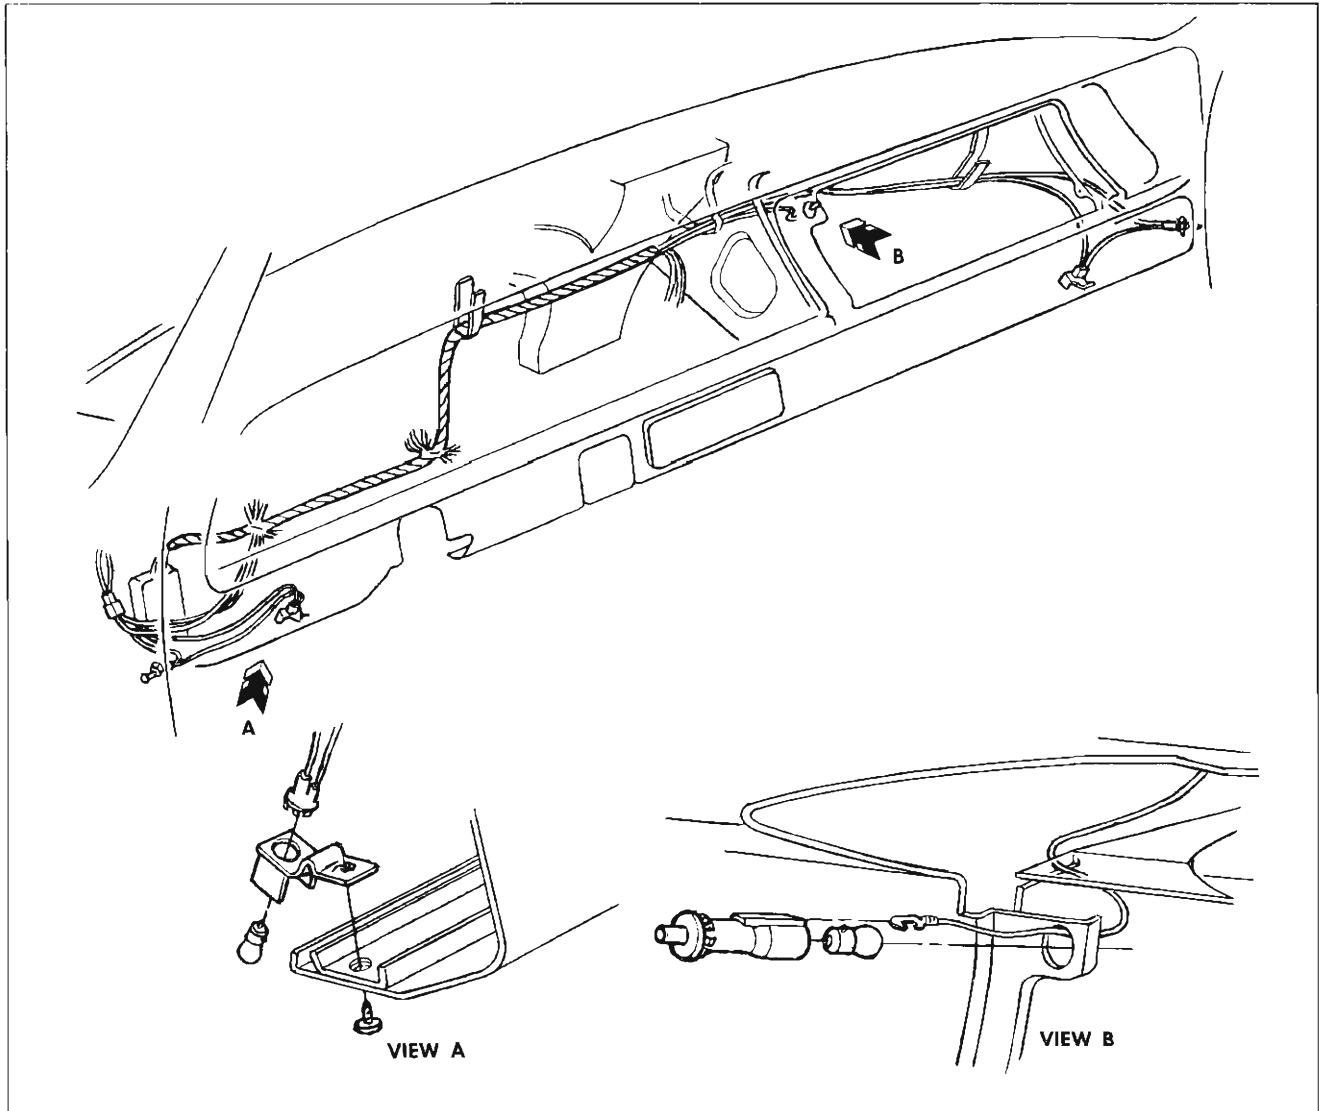

Fig. 20—Instrument Panel Compartment Switch and Courtesy Lamp Assemblies
**INSTRUMENT PANEL COMPARTMENT LAMP/SWITCH REPLACEMENT (FIG. 20)**